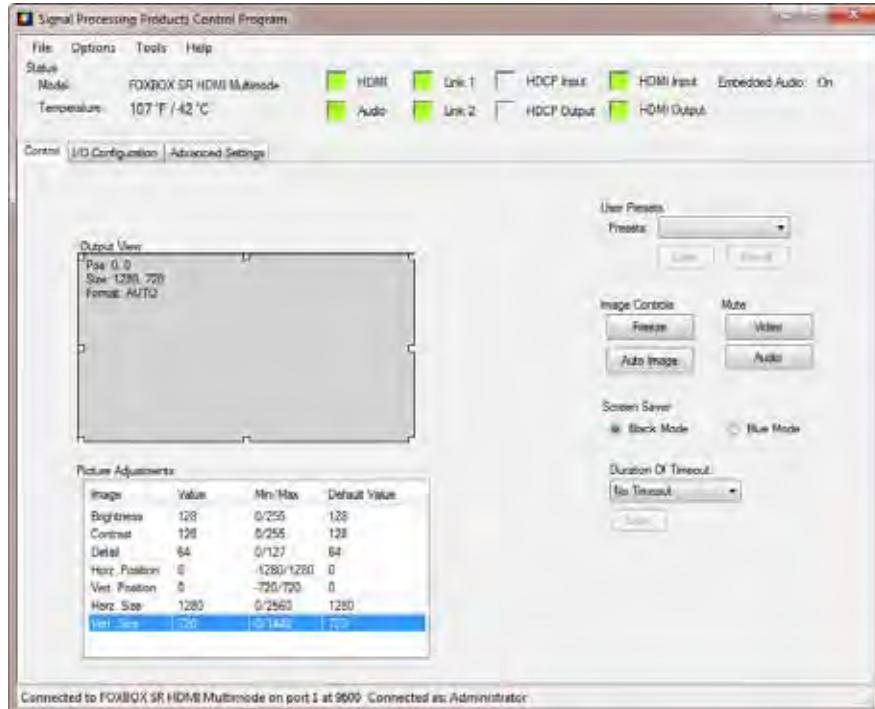

Figure 23. Signal Processing Product Control Program Window
2. Select the Com port to which your receiver is connected. Click **OK**. The Signal Processing Product Control Program window appears (see figure 23).